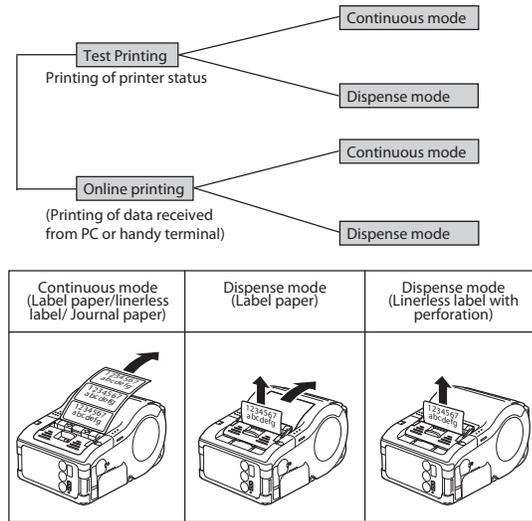

**Figure 4-21, Pulling the Printed Label Toward You**
2. Press the FEED button to feed a label (assuming that I-mark sensor is being used). When the feeding stops, tear off the label correctly by pulling the label in the direction of the arrow shown in Figure 4-21. The label is now aligned properly for printing to resume.